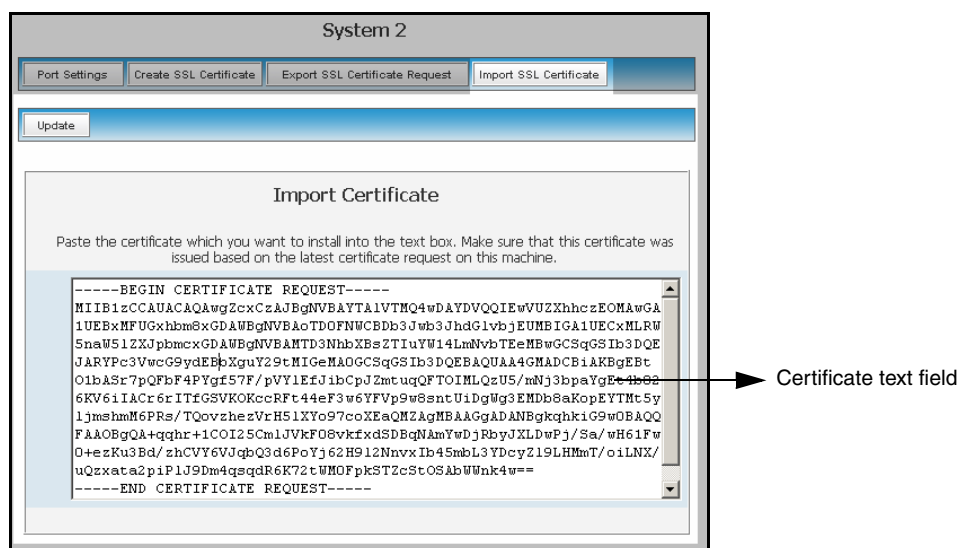

FIG. 66 Import SSL Certificate dialog
2. Navigate to the Server Certificate page by clicking **System Settings > Manage System > Server > Import SSL Certificate** to open the Import Certificate page (FIG. 66).